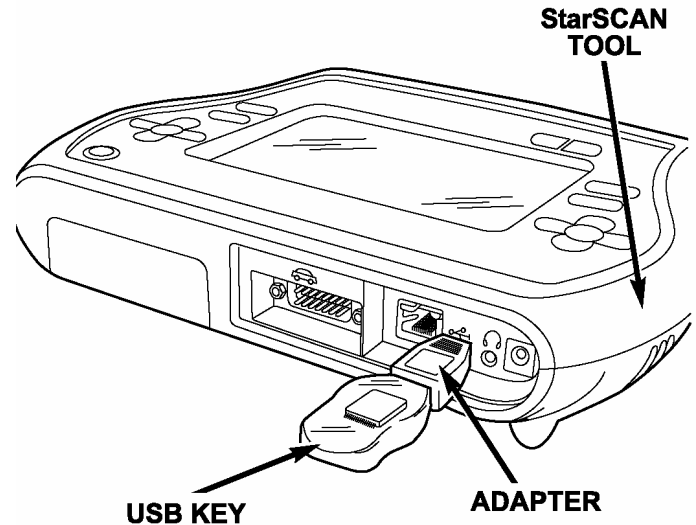

Figure 2
9. With the StarSCAN powered OFF, connect the USB Key and adapter to the StarSCAN USB port (Figure 2).